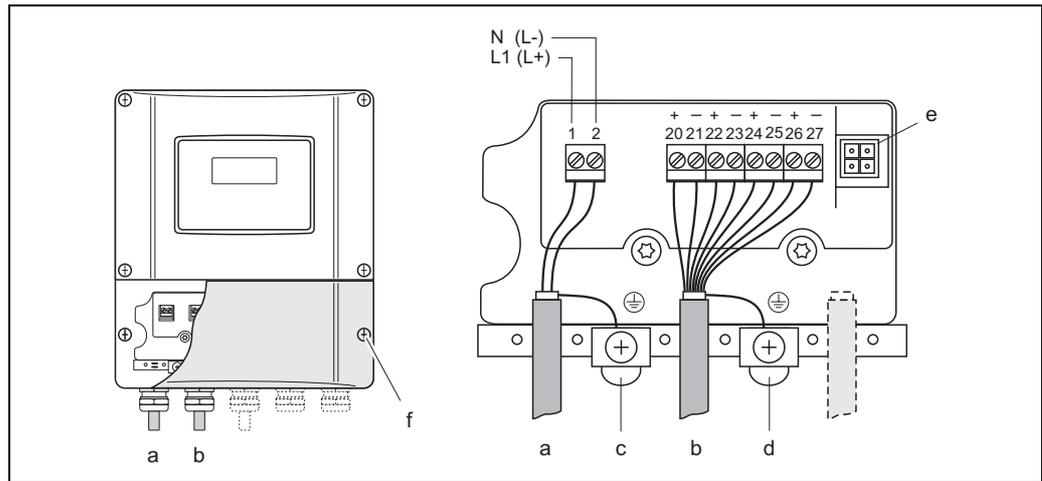

Fig. 20: Connecting the transmitter (wall-mount housing); cable cross-section: max. 2.5 mm²
- Wiring diagram (wall-mount housing) → Fig. 20